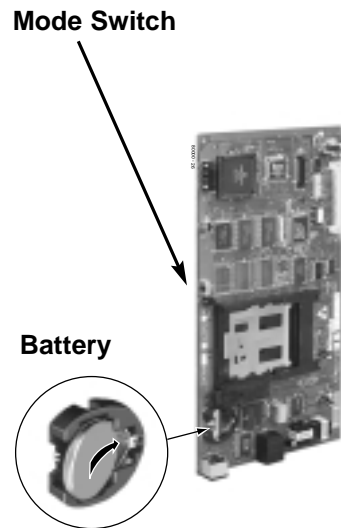

Figure 2-5 Setting up the CPU
### Installing the CPU (Figures 2-5 and 2-6)
1. Slide the Mode Switch to the RUN position (see Figure 2-5).